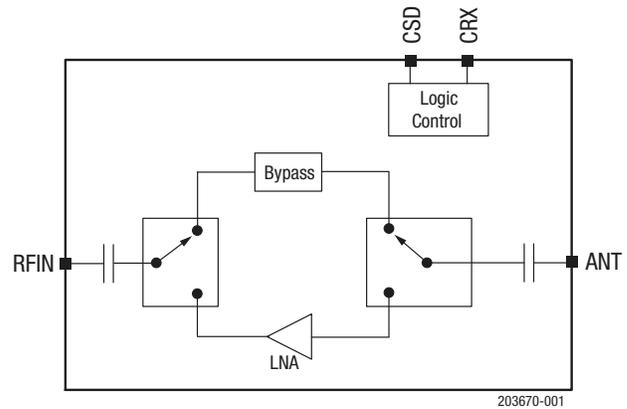
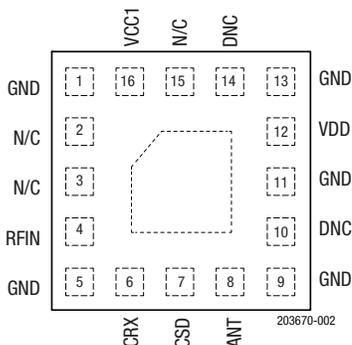

Figure 1. SKY66113-11 Block Diagram
Figure 2. SKY66113-11 Pinout (Top View)
- Low noise figure: 2 dB typical
A functional block diagram is shown in Figure 1. The SKY66113-11 is provided in a small, 16-pin, 2.4 × 2.4 mm Multi-Chip Module (MCM) package. The pin configuration and package are shown in Figure 2. Signal pin assignments and functional pin descriptions are provided in Table 1.